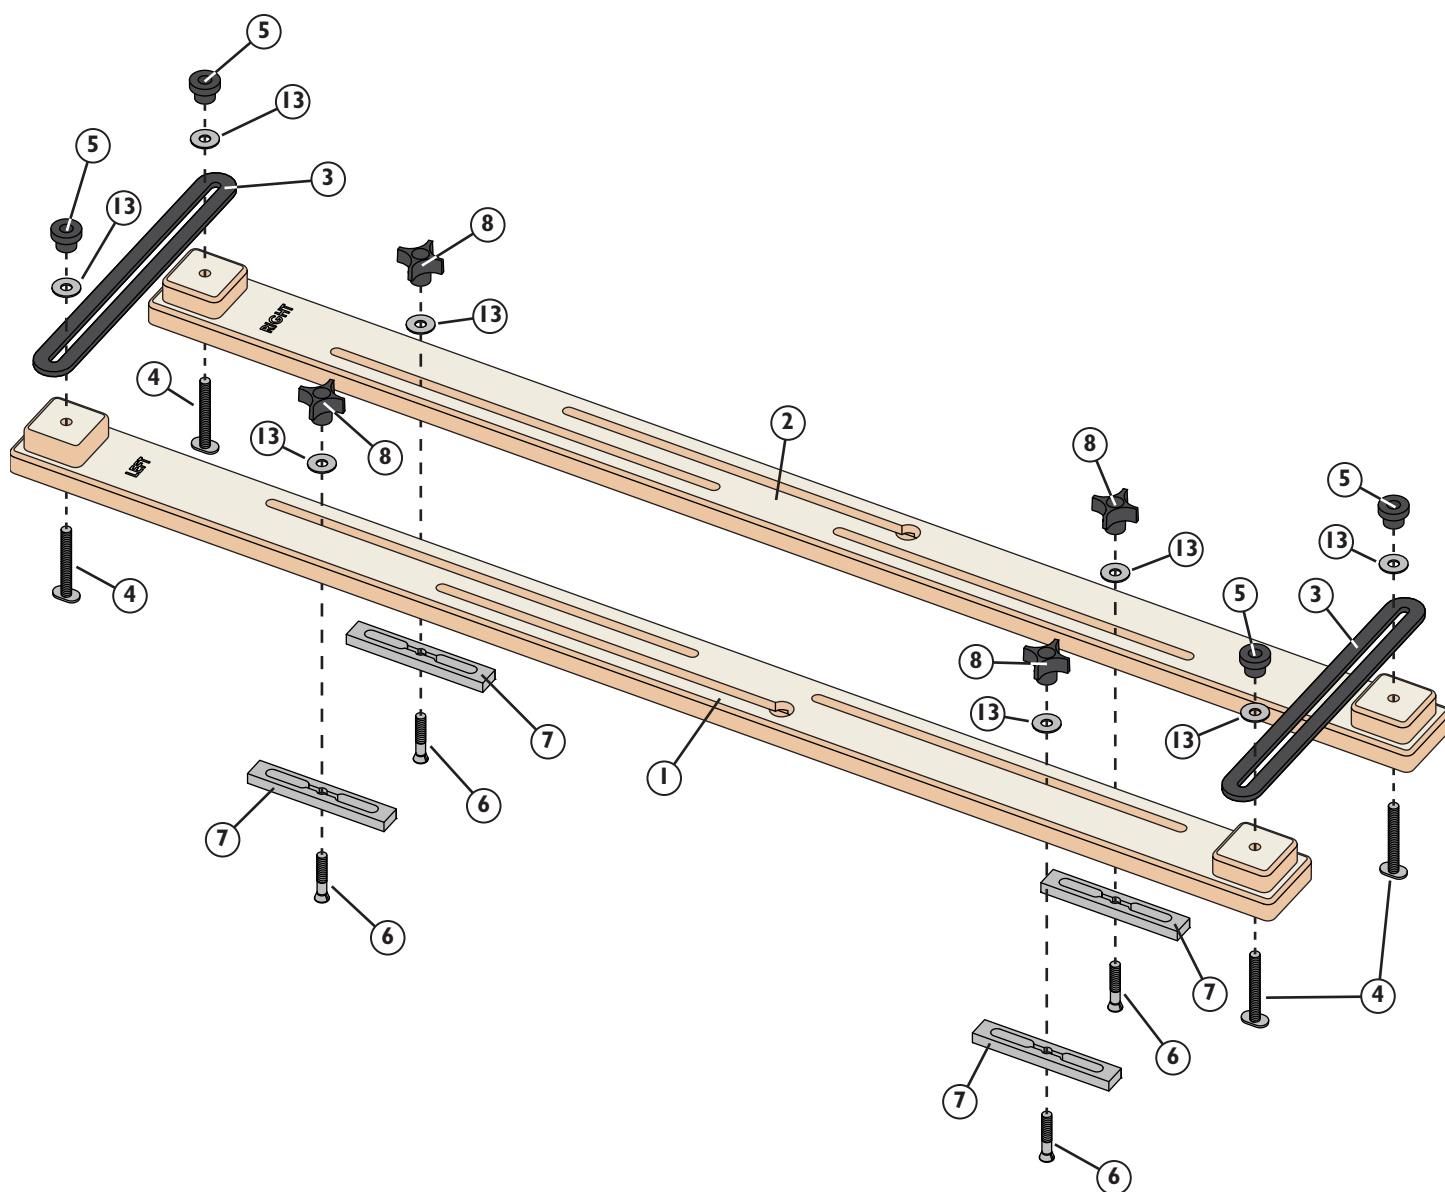

Fig. 1 - Jig Base Assembly
2. Attach the two Tie Bars (3) to the fences, using the Long T-Bolts (4), Knurled Knobs (5) and Washers (13). Make sure the Long T-Bolts fit into the countersunk areas on the bottom of the Fences. **Fig. 1.**
3. Feed the four Wedge Bolts (6) through the Miter-Track Clamps (7), making sure the Wedge Bolts sit in the countersunk areas on the bottom of the Miter-Track Clamps. **Fig. 1.**
4. Now feed the Wedge Bolts (6), through the bottom of the four long slots on the inside edges of the Fences (1 and 2) and attach each one using one Washer (13) and Star Knob (8). **Fig. 1.**